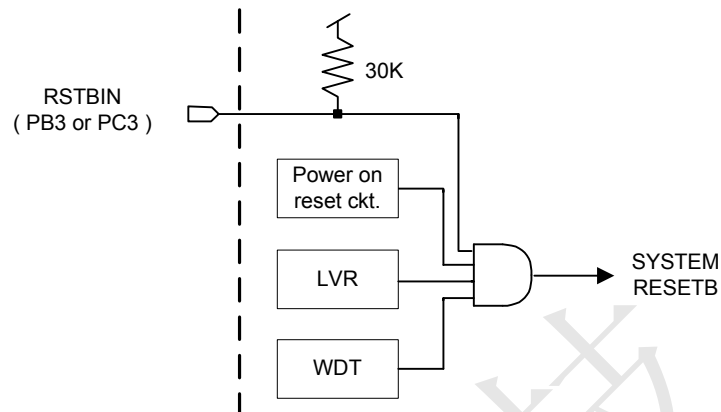

Figure 10.1 Reset system block diagram
TRSF1602A(C) reset is come from four signals which are power on reset, low voltage reset(LVR), external IO PB3 or PC3 pin (by option) and WDT overflow reset, as shown in Figure 10.1. A dedicated external resetb input pin (by option) is provided to reset this chip, which has 30K ohm pull up resistor. The operation frequency of MCU will go back to BANK0 mode when reset occurred.